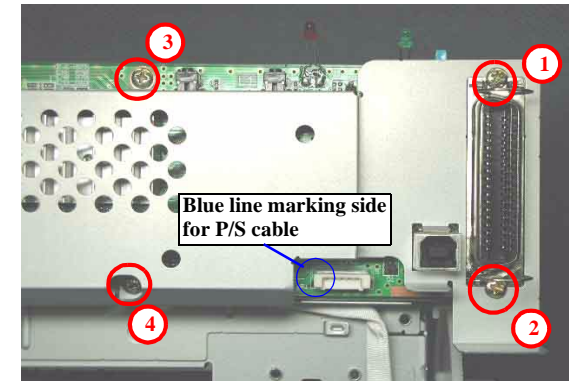

Figure 4-42. Circuit board assembling
- Make sure to connect all cables to the connectors (CN2, CN4, CN7, CN8, CN9, CN12) on the Main board in the correct direction. (Refer to Figure 4-42)